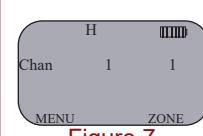

Figure 7
*Note: H= HI Power/ M=Medium Power/ L=Low Power **(See Figure 7)***